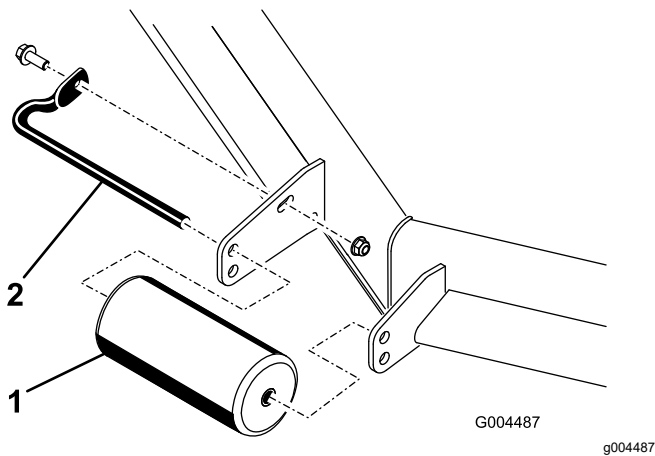

Figure 10
4. Remove the fasteners securing each roller on your mower and move the rollers up or down as desired (Figure 10).